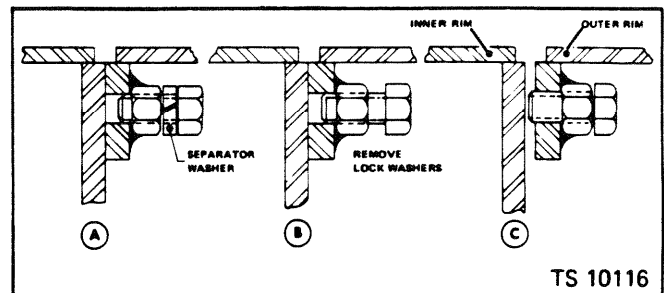

Fig. 12-2 Separator Bolt Operation
- With the separator bolt lock washers removed, alternately thread in the separator bolts to brake the rim halves apart. Fig. 12-2.